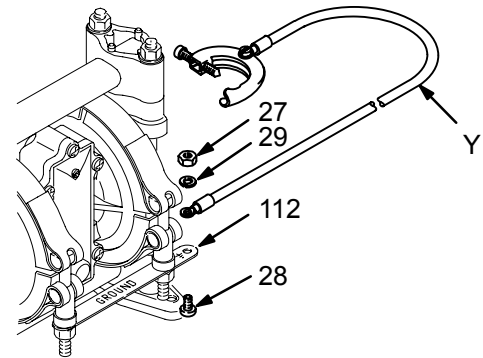

Fig. 1
- *Pump*: Attach a ground wire (Y) to the grounding strip (112) with the screw (28), lockwasher (29) and nut (27), as shown in Fig. 1. Connect the clamp end of the ground wire to a true earth ground. Order Part No. 222011 Ground Wire and Clamp.